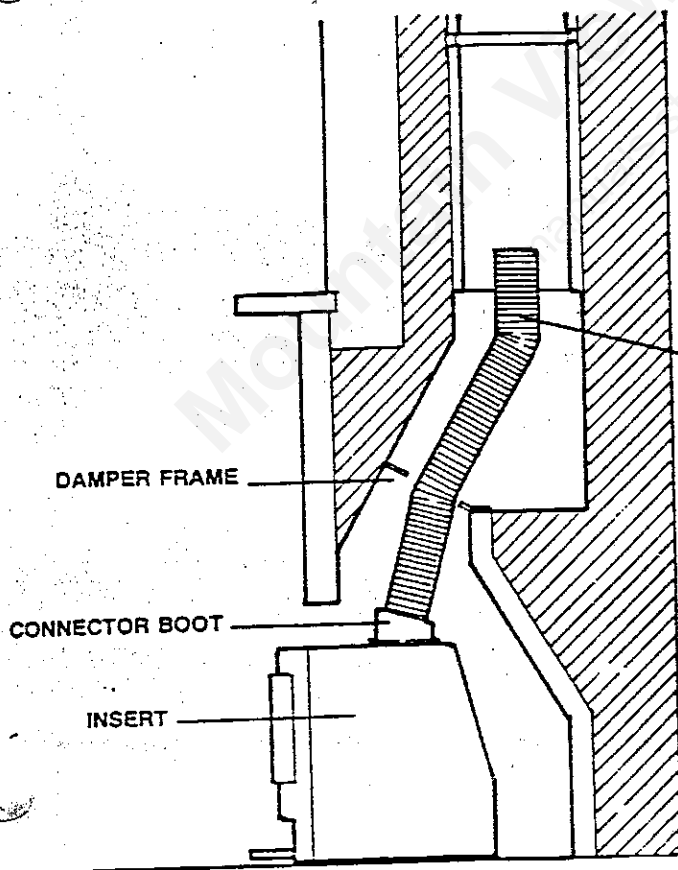

FIG. 1
— That a clear passageway exists between the damper frame and the bottom of the clay tiles in the chimney flue. (See Fig. 1)
4. Push flex connector through damper frame and into the clay tile in the bottom of chimney flue. (Fig. 1)